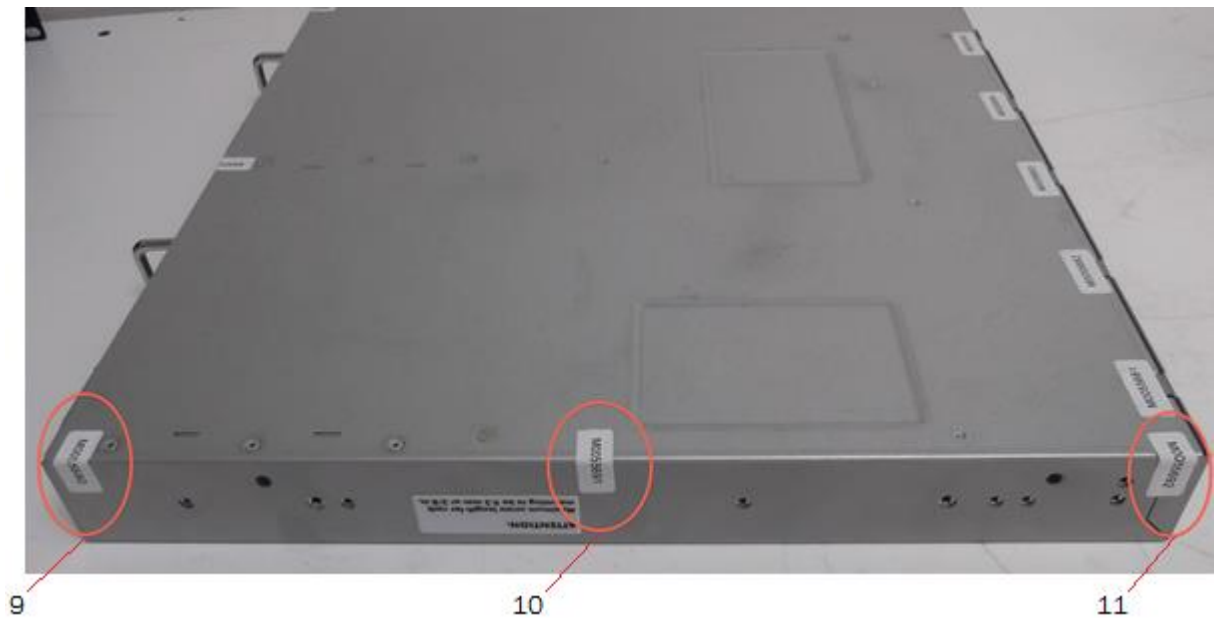

Figure 3. Brocade VDX 6740 bottom right-side seal locations
3. **Right side:** Apply three (3) seals across the seam between the right side of the top cover and the bottom of the chassis. Each seal must wrap across a 90-degree angle from the bottom of the chassis to the side of the top cover. Refer to **Figure 3** for details on how to position each seal.